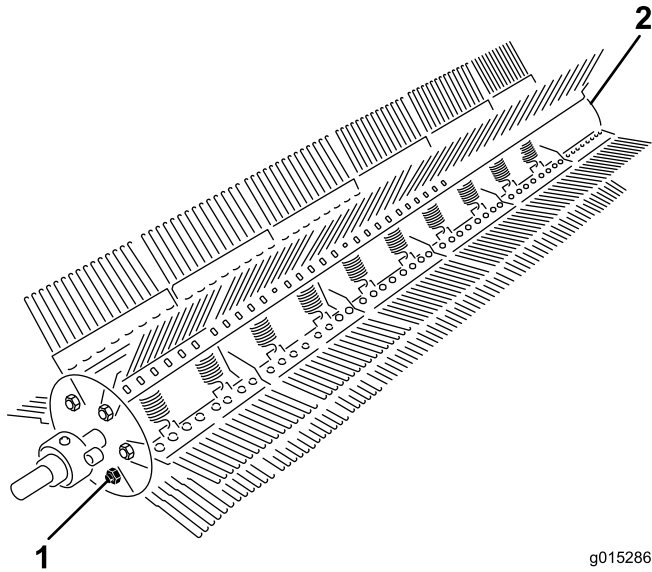

Figure 34
1. Remove the bolt and locknut from one end of the reel (Figure 34).